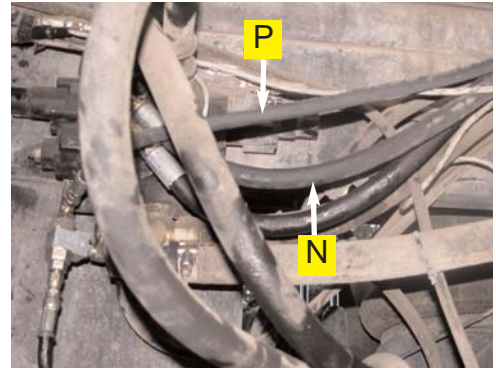

Figure 4d. Pressure hose and load sense hose at the priority divider.
- d. The pressure hose (**N**) and load sense hose (**P**) run along the frame with existing plumbing. Use the provided heavy tie straps that are provided to secure the hoses to the machine and the frame, away from moving parts. (Figure 4d. and 4e.)